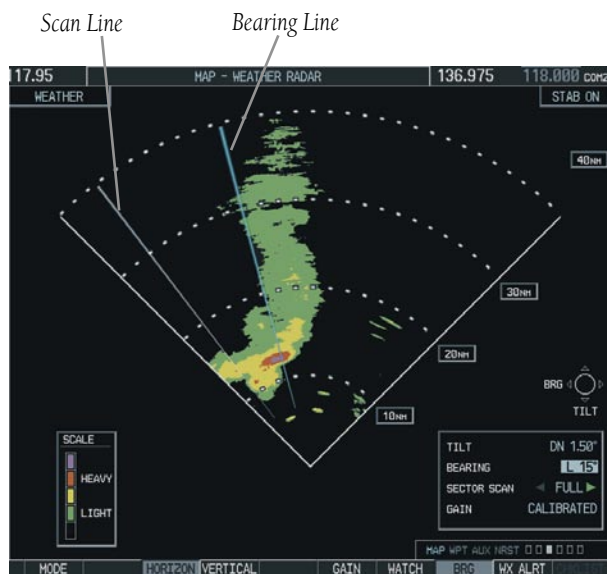

Figure 10-30 Bearing Line on Horizontal Scan
- 1) While in the Horizontal Scan view, select the **BRG** Softkey. This places the cursor in the BEARING field and displays the Bearing Line (Figure 10-30).